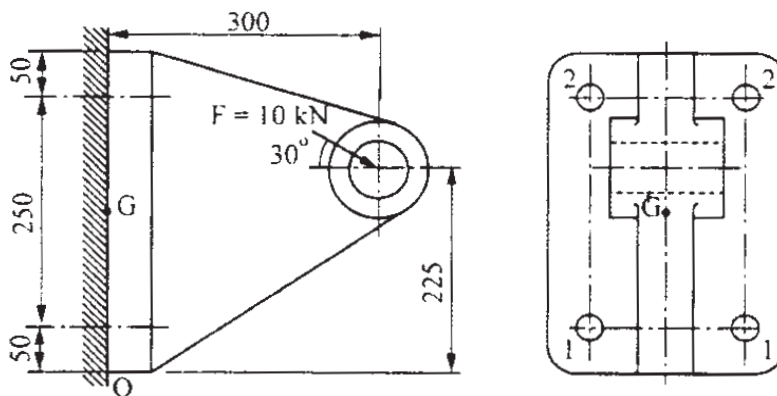

Fig.3
- Q6)** A bracket is subjected to loading as shown in Fig.3. Determine the size of the bolts if the permissible tensile stress in the bolts is not to exceed  $75 \text{ MPa}$ . Assume maximum normal stress theory of failure. [18]